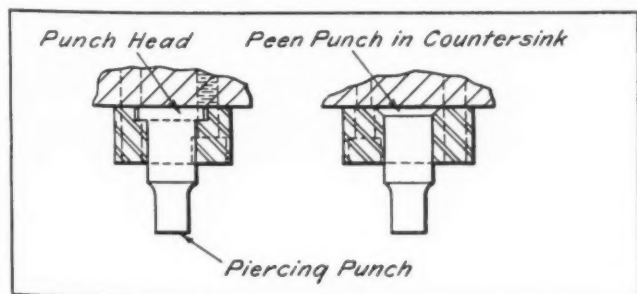

Fig. 10. Retainer Type Punch Inserted in a Soft Steel Punch Retainer Plate
2. A retainer type punch (Fig. 10) may be inserted in a soft steel punch retainer plate. The punch usually has a round body which is a press fit in a hole in the retainer. The bottom end of the punch, or the piercing point, is made to the shape